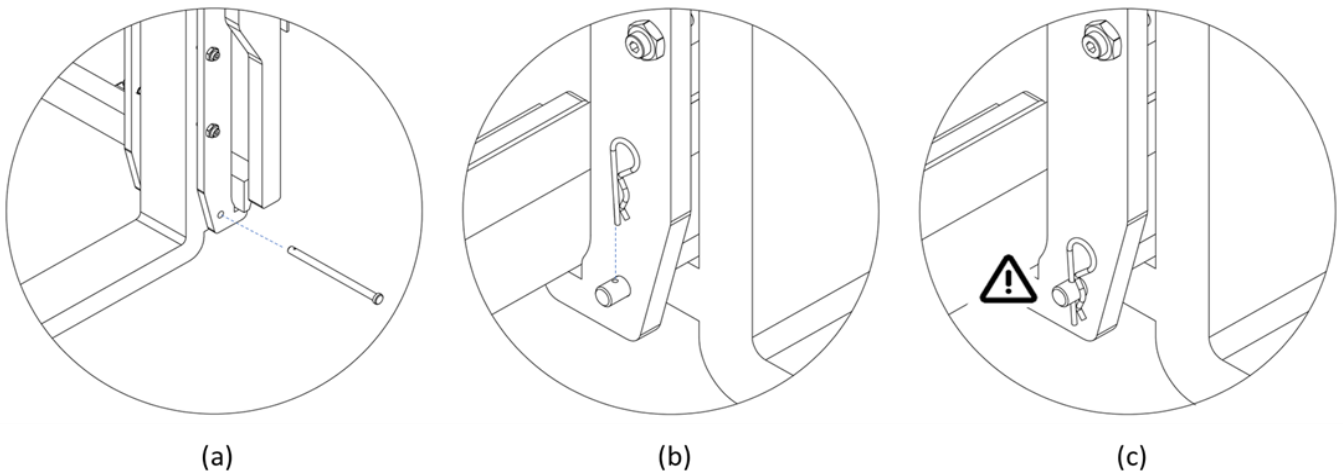

Figure 11
1. Insert the fastening pins of the lower fork couplings and check that fork coupling is locked by the pin itself (see *Figure 11, a*).
2. Insert the safety cotter pin into the hole in the pin and ensure that it is secure (see *Figure 11 ,b*).
4. Check that the safety cotter pins are present on both forks and correctly positioned before beginning handling operations (see *Figure 11, c*).